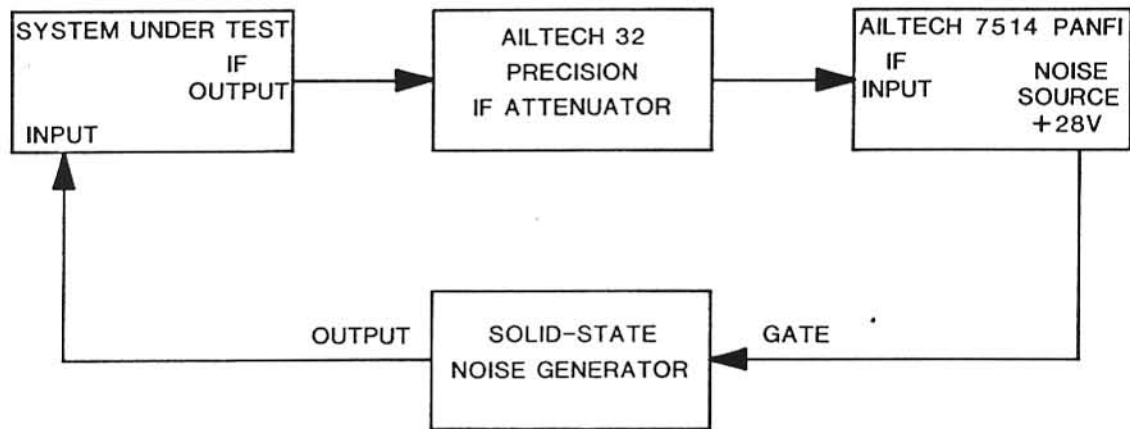

FIGURE 3-5. MANUAL NOISE FIGURE MEASUREMENT USING SOLID-STATE NOISE GENERATOR
- a. Set up the equipment as shown in Figure 3-5.